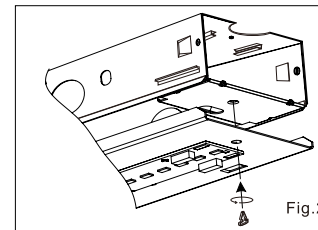

Fig.2
6. Install the wire way compartment and fasten the 4pcs quarter turner fasteners. (Fig 2)